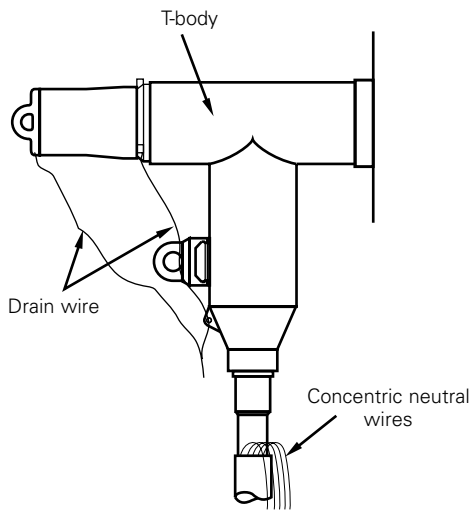

Figure 30. Line illustration of grounding.
- Connect tie-off tabs of BLRTP and T-body with a strand of drain wire to cable concentric neutral wires to common ground point. (Refer to Figure 30.)